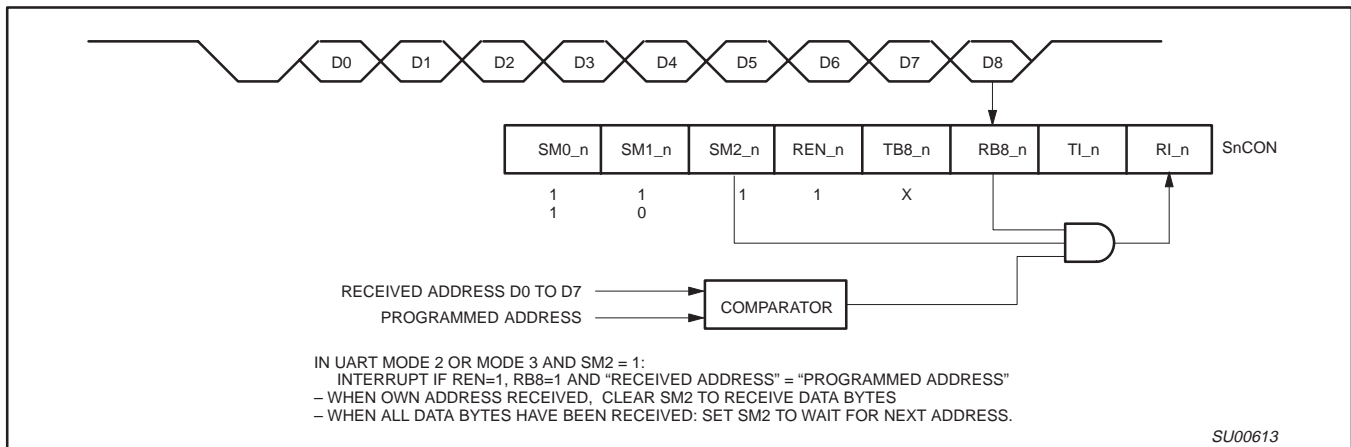

Figure 23. UART Multiprocessor Communication, Automatic Address Recognition
Automatic Address Recognition is a feature which allows the UART to recognize certain addresses in the serial bit stream by using hardware to make the comparisons. This feature saves a great deal of software overhead by eliminating the need for the software to examine every serial address which passes by the serial port. This feature is enabled by setting the SM2 bit in SCON. In the 9 bit UART modes, mode 2 and mode 3, the Receive Interrupt flag (RI) will be automatically set when the received byte contains either the "Given" address or the "Broadcast" address. The 9 bit mode requires that the 9th information bit is a 1 to indicate that the received information is an address and not data. Automatic address recognition is shown in Figure 23.